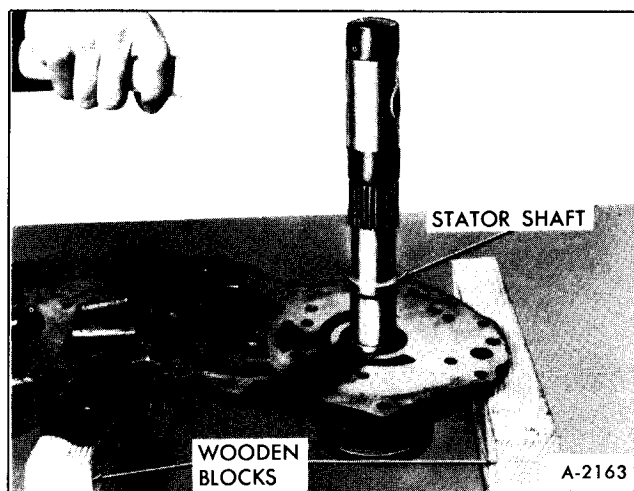

Figure 46—Removing Drive Sprocket Support
b. Support cover plate on wooden blocks and using a plastic mallet, vigorously strike the stator shaft of the drive sprocket support, Figure 46, and the hub of the driven sprocket support, until they are removed from their pump cover plate bores.